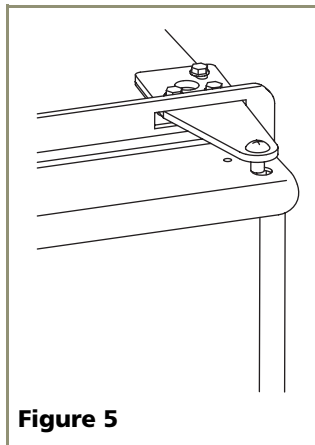

Figure 5
2. Remove top hinge from cabinet (three screws). See **Figure 5**. Hold door to keep it from falling. Slide hinge through flange.